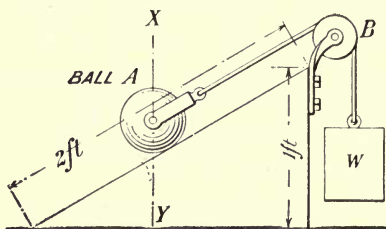

FIG. 26.—Inclined Plane.
**42. An Example of the Inclined Plane.**—Figure 26 represents an inclined plane supporting a ball *A* which is free to roll on an axle through its center.
length and height of the inclined plane are proportional to the weights  $A$  and  $W$ . For example, if in Fig. 26 we make the height of the plane 1 ft. and its length 2 ft., we know that the weight  $W$  need only be one-half as heavy as the weight of the ball to keep it from rolling down the plane. Stated as a proportion this would be,
We will now study the relative movements of the weights if the height of the inclined plane is one-half its length. In Fig. 26 when the ball rolls from the top of the plane to the bottom it has traveled 2 ft. on the plane but has dropped only 1 ft. in a vertical direction. By this we know that the distance the ball travels on the plane is to the vertical distance it moves through as 2 is to 1, when the height of the plane is one-half its length.